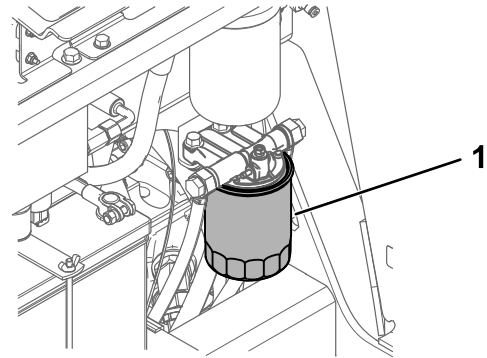

Figure 55
5. Place a clean container under the fuel filter canister (Figure 55).